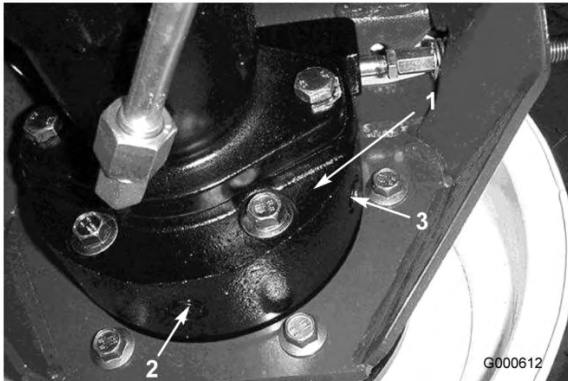

Figure 46
3. Place another drain pan under the brake housing on the other side of the wheel (Figure 46).